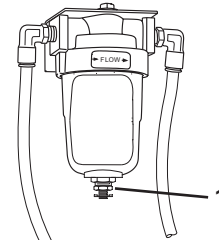

Figure 141
1. Locate the drain fitting (Figure 141, Item 1) on the bottom of the coalescing filter.